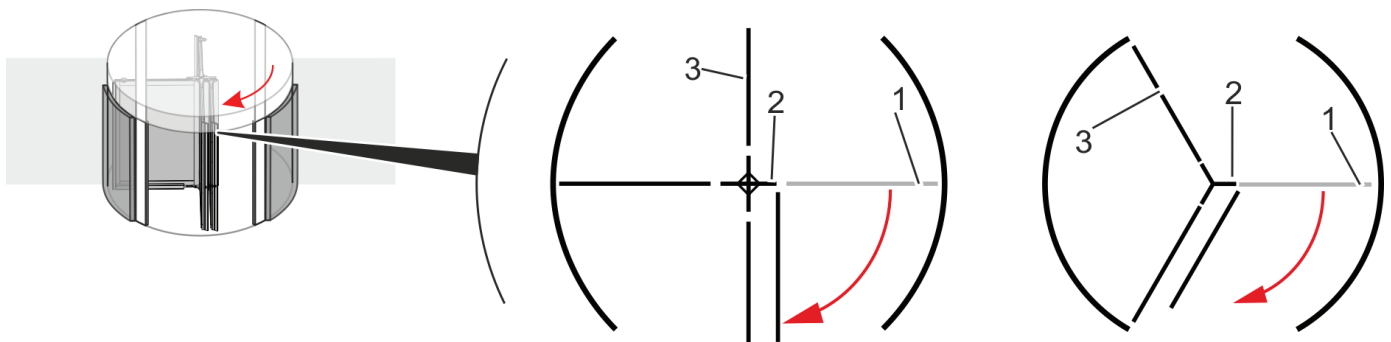

Fig. 11 Releasing the door wing (four and three wings)
Carefully align the door wing by hand, as shown in Fig. 11.
3. Release the stop on the foldable wing (Fig. 11/1) by inserting the Allen key into the handle at the top and bottom bracket (Fig. 11/2) and turning the handle to the side.
Have one person hold the foldable door wing at the entrance (Fig. 11/3).
5. Move the door wing (Fig. 11/1) in the direction indicated by the arrow, as shown in Fig. 11.